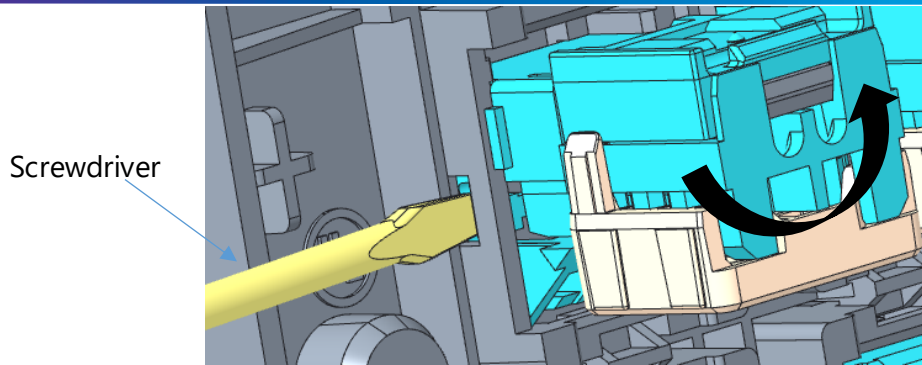

**Figure 8**
4.2.1 Remove from un-shuttered port, refer to figure 8.